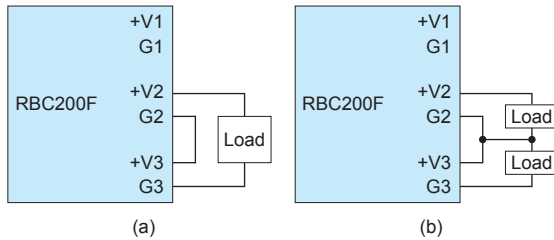

Fig.3.1 Examples of wiring in series operation
■ Series operation is possible only if Slot 2 and Slot 3 are the same module. Fig.3.1 shows an example of wiring.